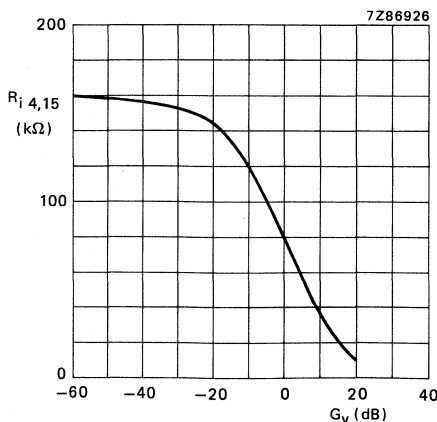

Fig.3 Input resistance (R_i) as a function of gain of volume control (G_V). Measured in Fig.1.
1. Equation for input resistance (see also Fig. 3)